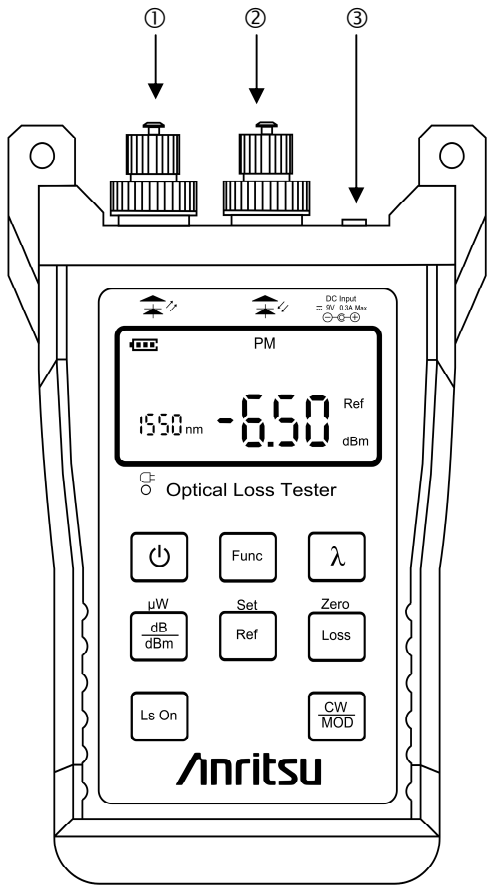

Figure 2 CMA5 Series Optical Loss Tester Operating Controls
1. Output Connector (Laser Aperture) (See Figure 2-①.)
①Optical output port (CMA5 Series Optical Loss Tester is supplied with one connector adapter (FC, SC, or ST) as a standard accessory).
2. Input Connector (Laser Detection) (See Figure 2-②.)
②Optical input port (CMA5 Series Optical Loss Tester is supplied with one connector adapter (FC, SC, or ST) as a standard accessory).
3. External Power Jack (See Figure 2-③.)
- This procedure requires two patch cords and an in-line adapter. Refer to figure 2 and attach one patch cord to the output connector and the other patch cord to the input connector of the unit. Use the in-line adapter to connect the two patch cords together.